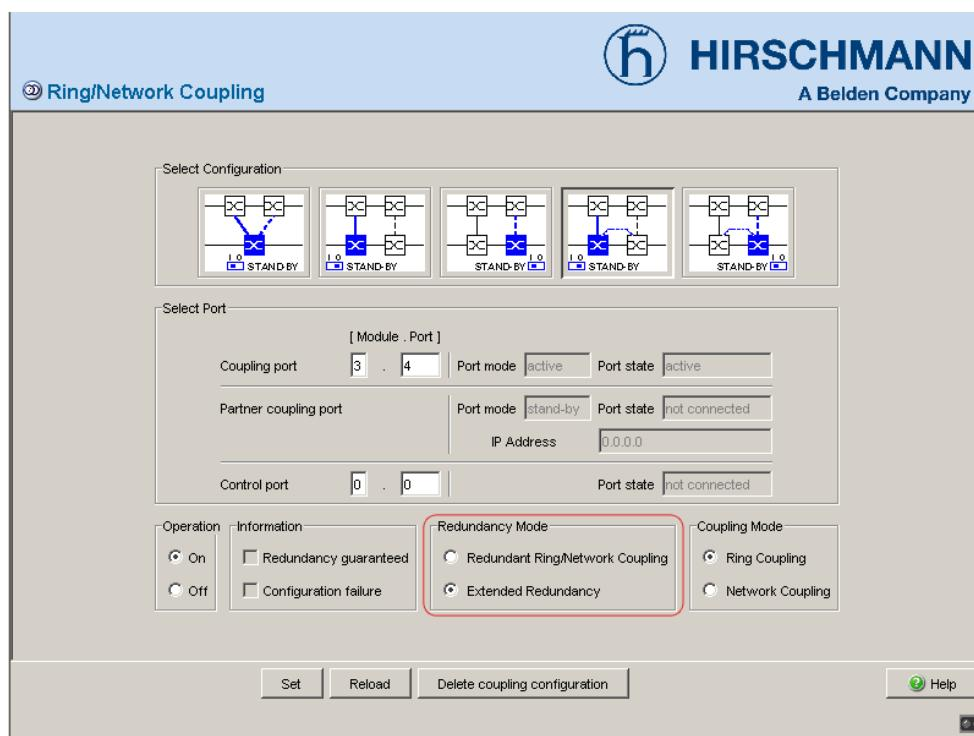

Figure 24: Selecting the redundancy mode
- In the “Redundancy Mode” frame, select (see fig. 24)